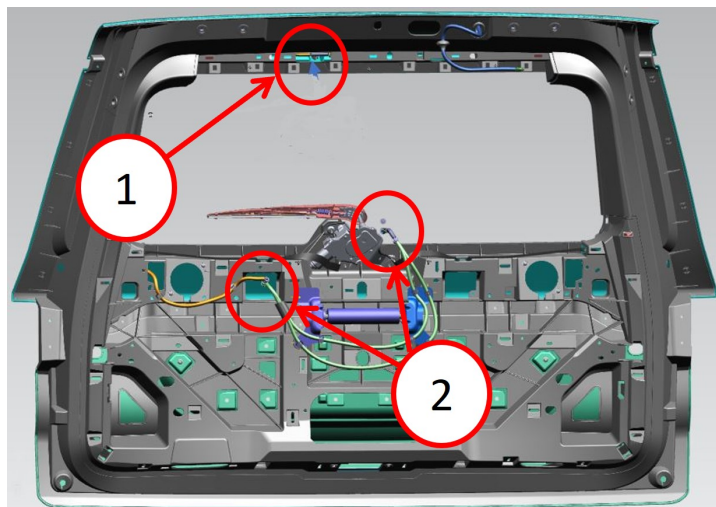

Fig. 6
15. **For Liftgate Leaks (Fig. 6)** . Remove the center high mounted stop lamp. Refer to the detailed service procedures available in DealerCONNECT> Service Library under: Service Info>08 - Electrical / 8L - Lamps and Lighting / Lamps/Lighting - Exterior / Lamp, Center High Mounted Stop / Removal.
17. Verify all connections (Fig. 6) with a push-pull-push test and confirm connection is tight. See figures (Fig. 7) and (Fig. 8) for close-ups of two of these locations.